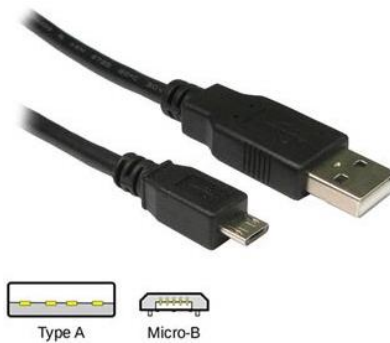

Figure 6-1 USB A to Micro-B Cable
- Micro USB Cable (see Figure 6-1)